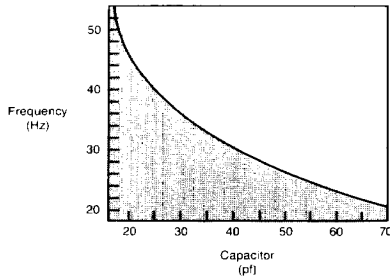

Figure 1
7. The  $LCD_{\phi}$  pin can be used in two modes, driven or oscillating. If  $LCD_{\phi}$  is driven, the circuit will sense this condition and pass the  $LCD_{\phi}$  input to the Backplane output. If the  $LCD_{\phi}$  pin is allowed to oscillate, its frequency is inversely proportional to capacitance (see Figure 1) and the LCD driving waveforms have a frequency  $2^8$  slower than the oscillator itself. The frequency is nearly independent of supply voltage. If  $LCD_{\phi}$  is oscillating, it is important to keep coupling capacitance to backplane and segments as low as possible. Similarly, it is recommended that the load capacitance on  $LCD_{\phi}$  be as large as is practical.
8. There are two obvious signal races to be avoided in this circuit, (1) changing Data In when Clock is falling, and (2) changing Load when Clock is falling.